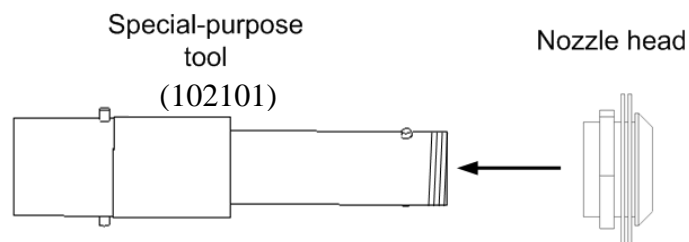

Figure 26: Nozzle head and special-purpose tool
3. Use a special-purpose tool, see Figure 26 and place the nozzle head in the $\text{Ø}32$ mm hole